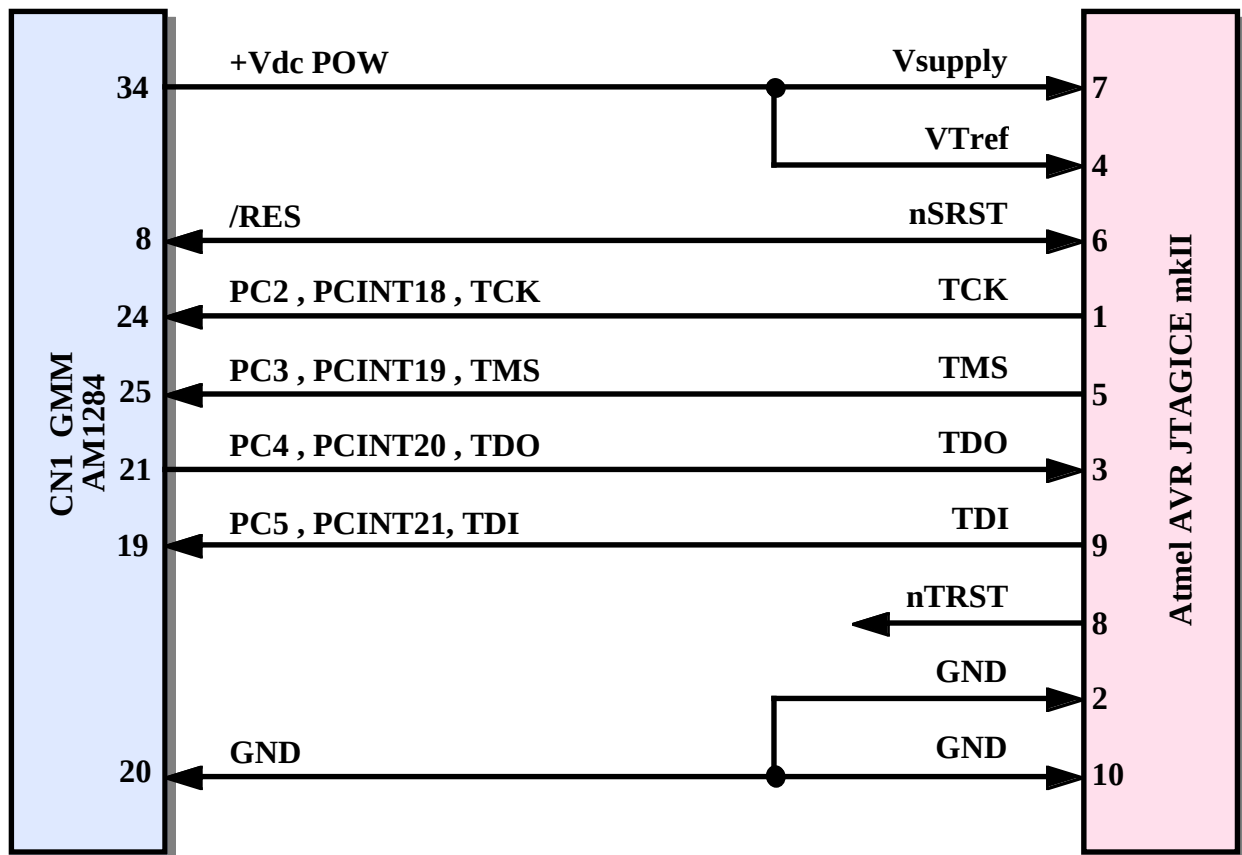

FIGURE D17: JTAGICE MK II CONNECTION
- e) As reported in figure D17, the JTAG interface uses 5 signals and the power supply. So during the use of **JTAGICE mk II** the signals connected to pin8 (/RES), 19 (TDI), 21 (TDO), 24 (TCK), 25 (TMS) of the socket, can't be used by user. We remind that for using these signals in applications, the user has to remove the **JTAGICE mk II**, and has to disable the microcontroller interface of microcontroller enabled at point c.